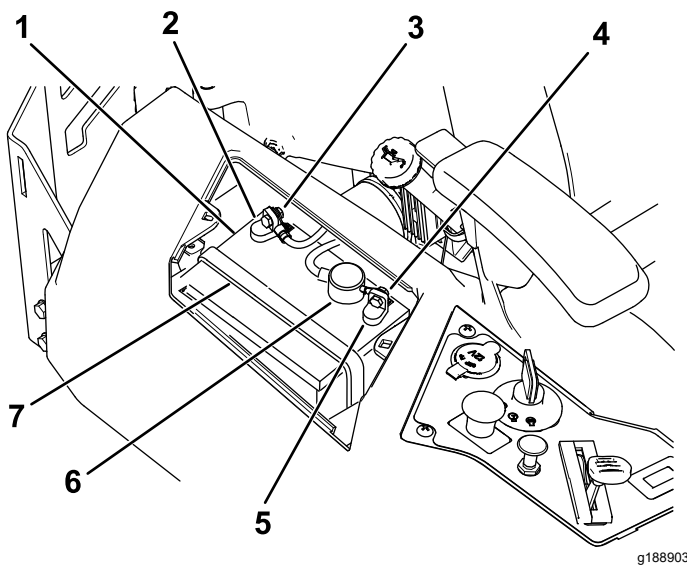

Figure 45
4. Disconnect the negative (black) ground cable from the battery post (Figure 45).
6. Disconnect the positive (red) cable from the battery post (Figure 45).
7. Remove the battery hold-down (Figure 45), and lift the battery from the battery tray.
1. Position the battery in the tray (Figure 45).
5. Secure the battery with the hold-down (Figure 45).